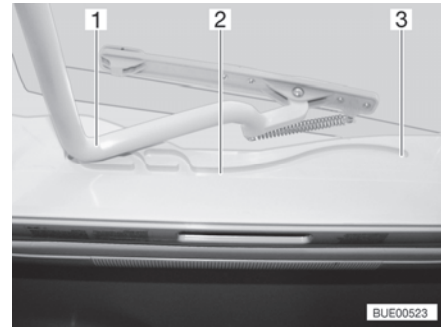

Fig. 20 Guide (Heki skylight)
- Pull the bar (Fig. 20,1) in the guides (Fig. 20,2) to the rearmost position (Fig. 20,3).
- Use both hands to push the bar (Fig. 20,1) slightly upwards.
- Pull the bar in the guides (Fig. 20,2) to the desired position.